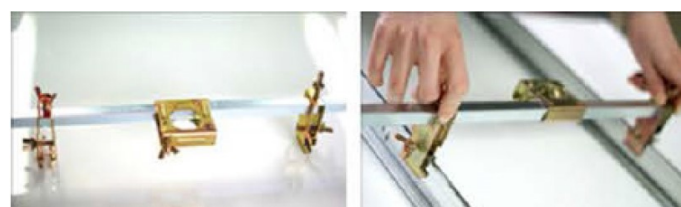

Figure 3
a) Join the two End brackets and the Middle bracket to the Square bar and place the End brackets properly on the aimed ceiling structure as shown in the picture. (Fig 3) (The maximum distance between two End brackets is 1500 mm and minimum 600mm) b) Fasten the Wing bolts on the top of the End brackets tightly. c) Push the End brackets into the ceiling structure rail and check that the End brackets sit on the ceiling structure properly. d) Fasten the Wing bolts on the side of the End brackets.